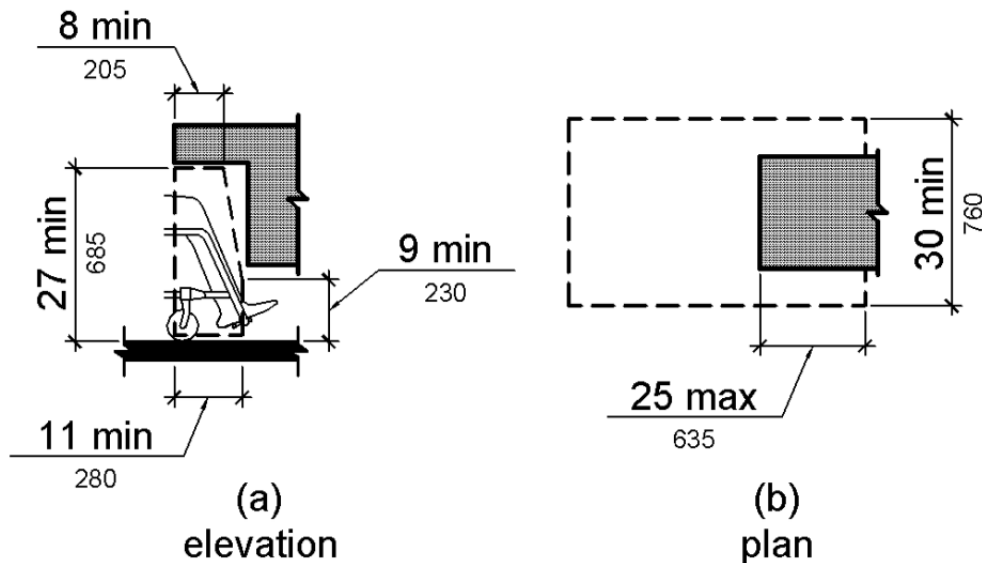

Figure 306.3
- b) Required knee and toe clearance: 27" knee clearance extending 8" deep, transitioning to 9" toe clearance at 11" deep (see attached 2010 ADA Figure 306.3)